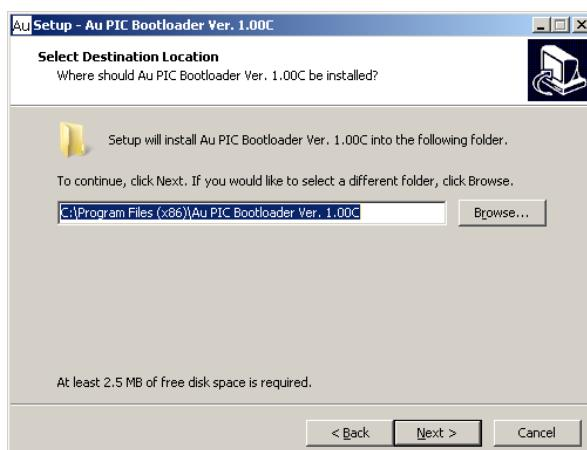

Figure C-4
- “Select Destination” window shows up, use default path: C:\Program Files\ AU PIC Boot-loader”, then click “next” to continue (Figure C-4).